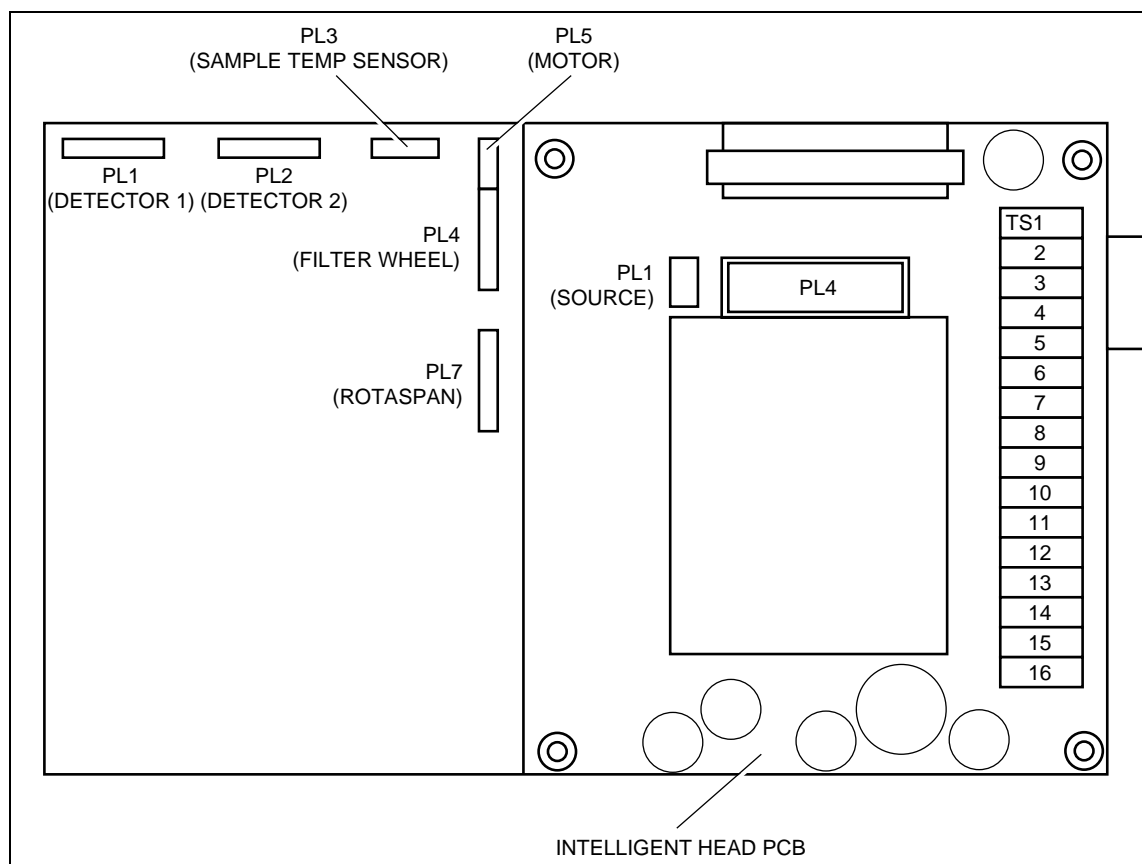

Figure 5-4 Optical head pcb, showing positions of connectors
- 5 Unplug the two-pin (Berg-type) pcb connector on the end of the cable from PL1 on the optical head pcb. Figure 5-4 shows the position of PL1.